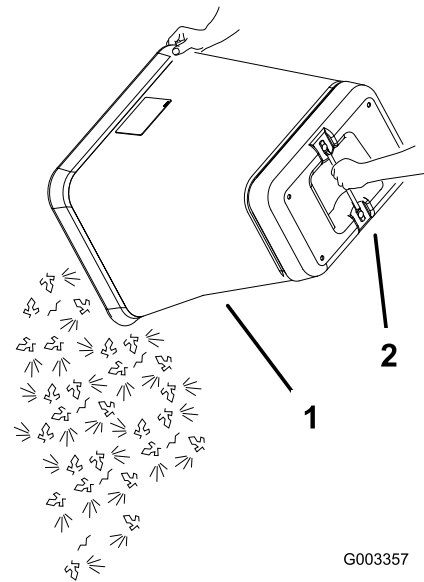

Figure 40
5. Grab the handle on the bottom of the bag and tip it over to empty the bag (Figure 40).